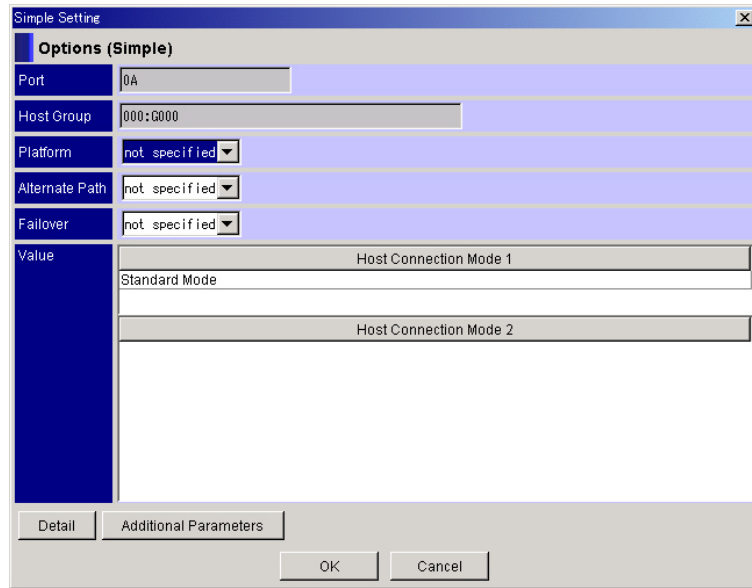
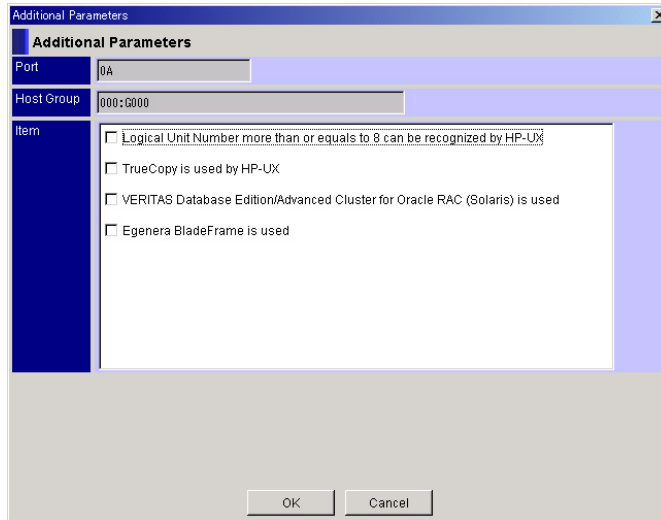

Figure 7-12 Simple Setting Dialog Box
Figure 7-13 Additional Parameters Dialog Box
4. The **Simple Setting** dialog box displays (see Figure 7-12).
- Click **Additional Parameters**. The Additional Parameters dialog box displays (see Figure 7-13). Select only appropriate items (if inapplicable item has been selected, uncheck the box of the item) and click OK. (The routine returns to Figure 7-12.)
6. Click **Detail** as needed. Select **Host Connection Mode 1** and **Host Connection Mode 2**, and click **OK**. (The screen returns to Figure 7-12.)